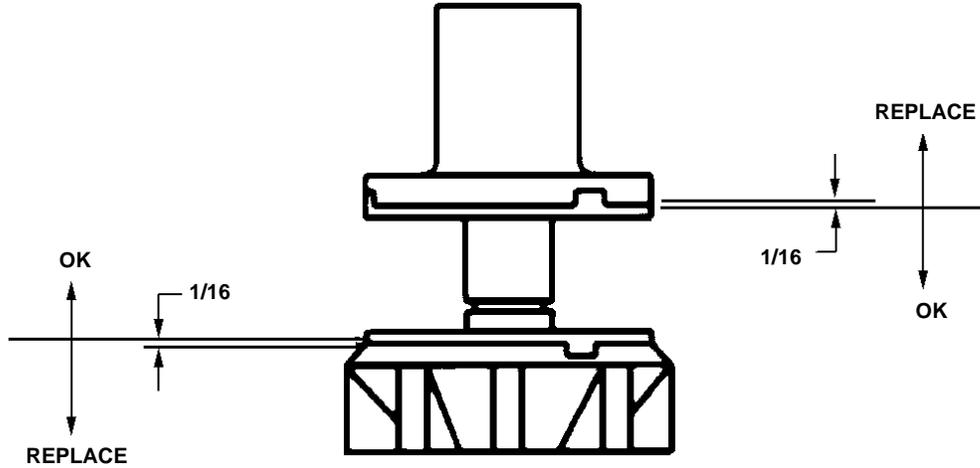

FIGURE 3. UPPER BEARING AND AUGER ASSEMBLY
6. Check white upper bearings on auger assembly. If bearings are less than 1/16” thick, replace. See Figure 3
The bearings are 3/32" thick. When they wear below 1/16" they should be replaced. Bearings to be inspected for wear during quarterly maintenance. See Figure 3.